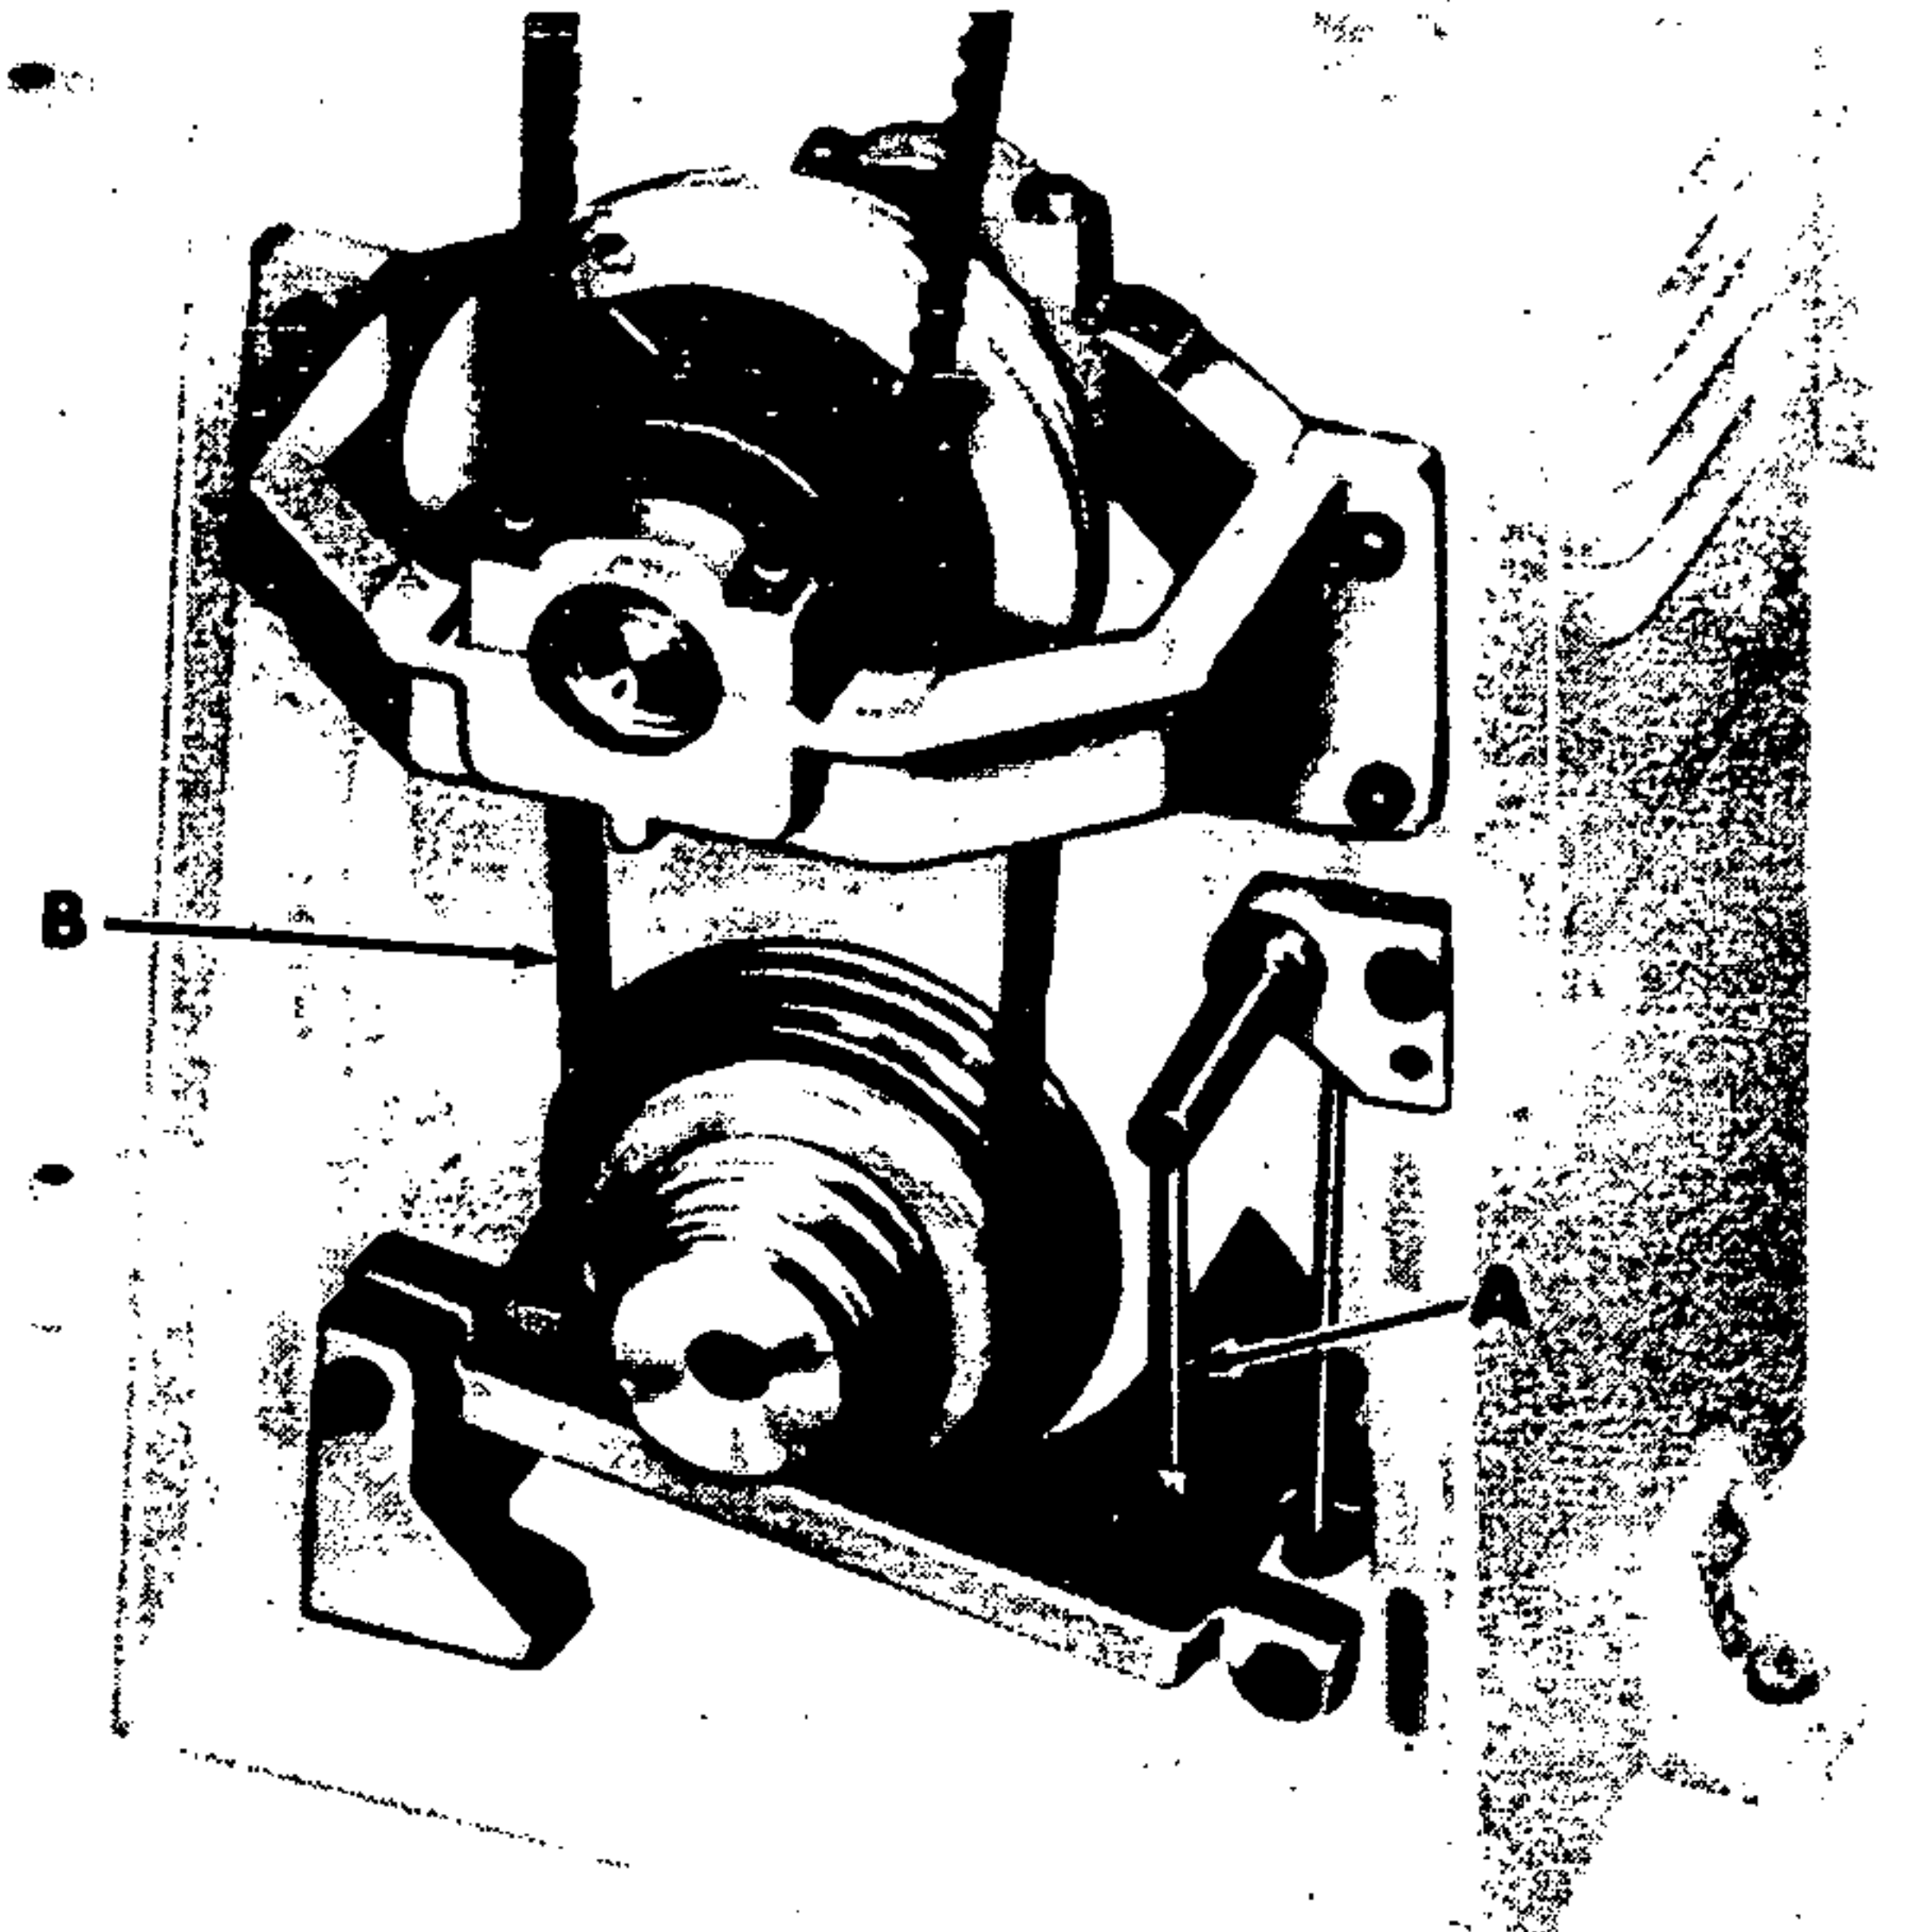

Figure 6
3. Raise belt tension lever (A, figure 6) to slacken belt (B).